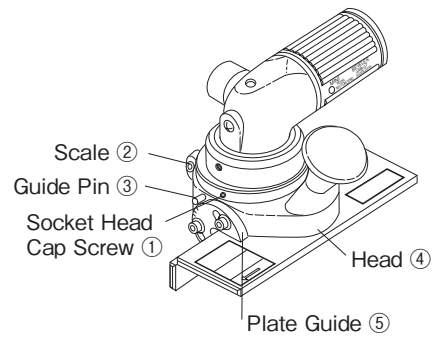
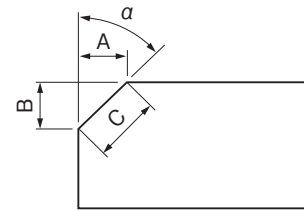

Fig. 8
Fig. 9
- (1) Loosen the Hex. Socket Head Cap Screws ① (4 pcs) on both ends on the Plate Guide ⑤ of Head ④. (Fig. 8)
- (2) Move the Plate Guide ⑤ so that the scale of desired angle can align to the Guide Pin ③.
- (3) Tighten the Hex. Socket Head Cap Screws ①.
- The tool has the limit of chamfering width which depends on a chamfering angle. (Fig. 9, Fig. 10)